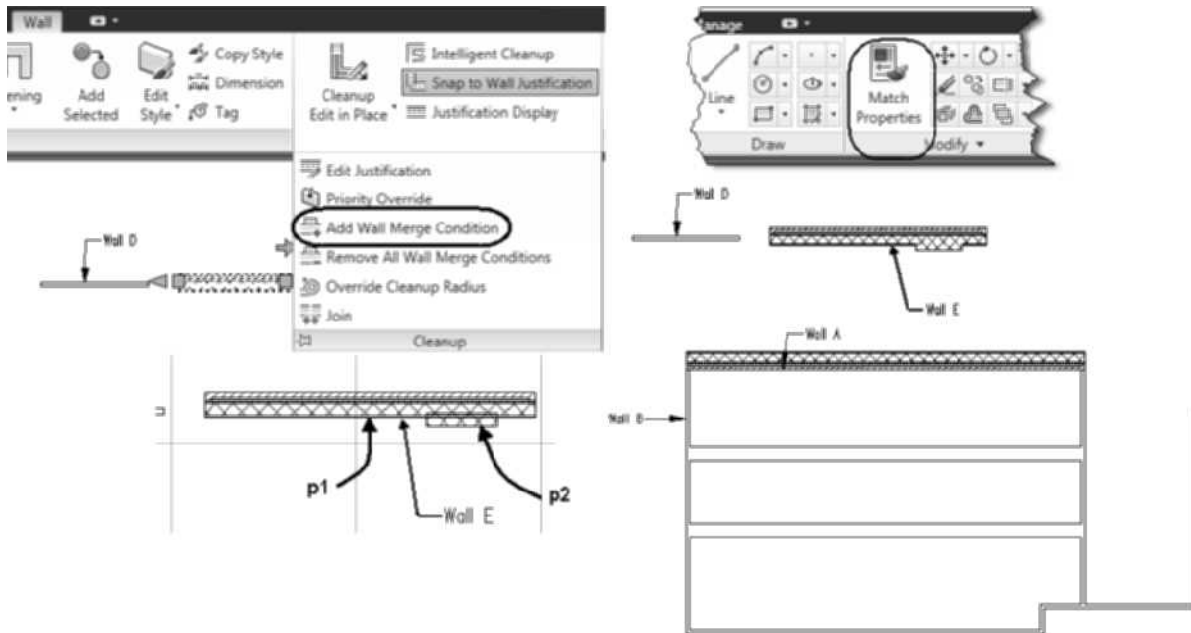

FIGURE 2.39 Wall selected for Merge Wall
15. Select **Wall E** at p1, as shown in Figure 2.39, and choose **Add Wall Merge Condition** from the Cleanup slide out panel. Respond to the workspace prompts as shown below:
Select walls to merge with: 1 found (Select wall at p2 as shown in Figure 2.39.)
16. In this step you will apply Match Properties to change the style of a wall. The Match Properties command does not modify the justification. Retain the selection of the wall at **p1**, as shown in Figure 2.39. Choose the Home tab. Choose **Match Properties** located in the Modify panel as shown in Figure 2.39. Respond to the workspace prompts as shown below: